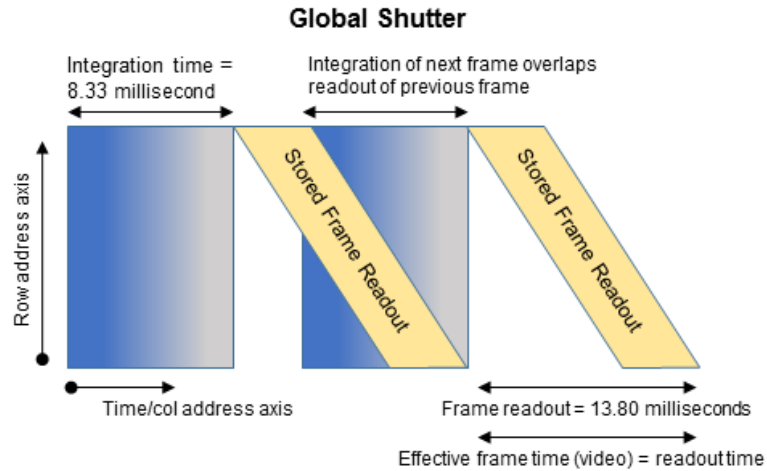

Figure 1: Global Shutter Description.
In Global Shutter (GS) mode, every pixel starts and stops integration at the same time. This mode provides superb clean capture of moving scenes without the need for a mechanical shutter. In GS mode, all pixel data is stored in light shielded regions within each pixel and held there until readout (Figure 1).